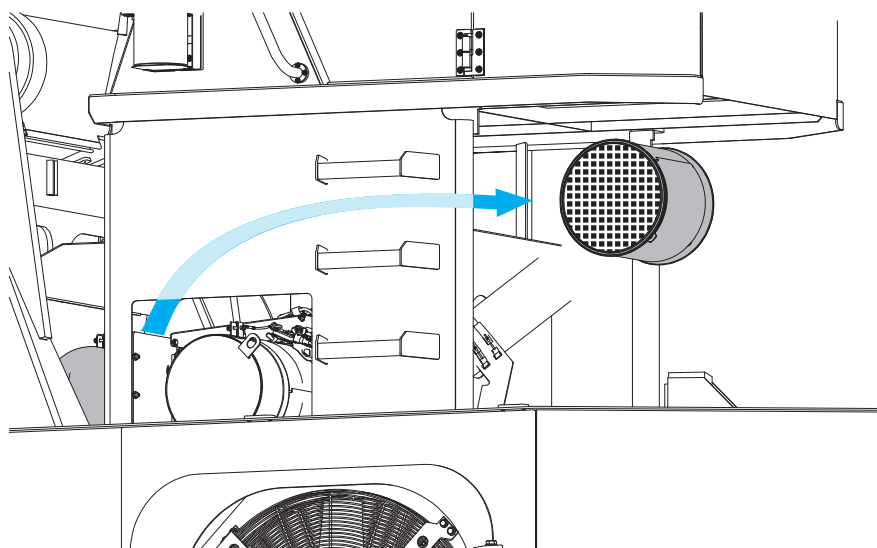

Figure 17 Removing Diesel Particulate Filter
The Diesel Particulate Filter (DPF) is mounted just in front of the superstructure assembly. See Figure 17.
4. Remove the DPF. Route through the superstructure. See Figure 17.